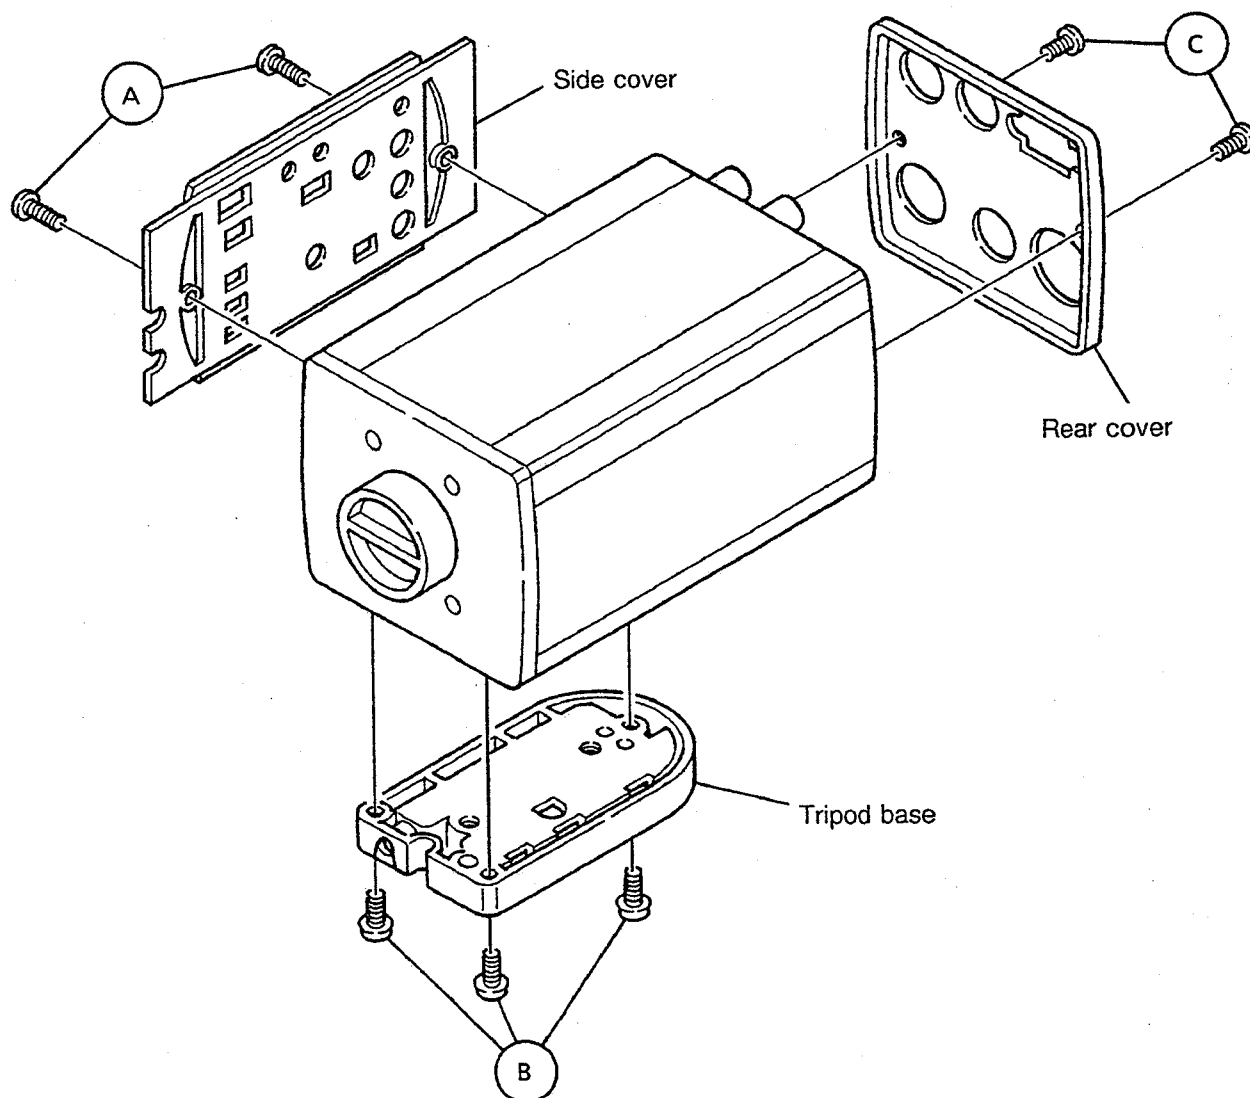

Fig. 1
- (1) Remove the two screws of ㊸ shown in Fig. 1.
- (1) Remove the three screws of ㊹ shown in Fig. 1.
- (1) Remove the two screws of ㊿ shown in Fig. 1.